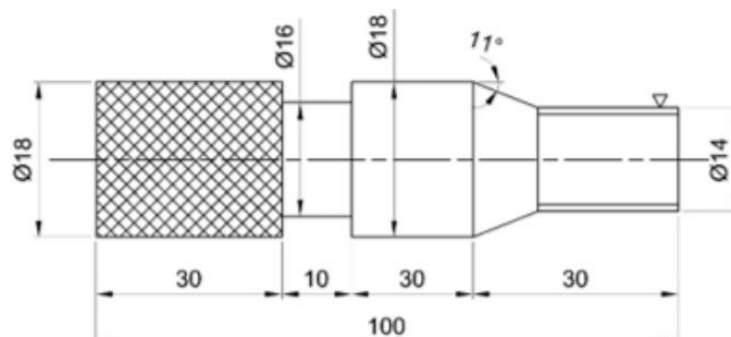

Figure 6.1. Thread cutting and knurling operation
6.1 Preparation of mild steel (MS) material for thread cutting and knurling operation as shown in the Figure 6.1